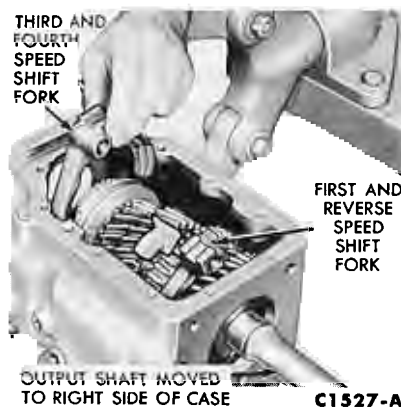

FIG. 7—Removing Shift Forks from Case
16. Move the output shaft to the right side of the case to provide clearance for the shift forks. Rotate the forks as shown in Fig. 7, then lift them from the case.